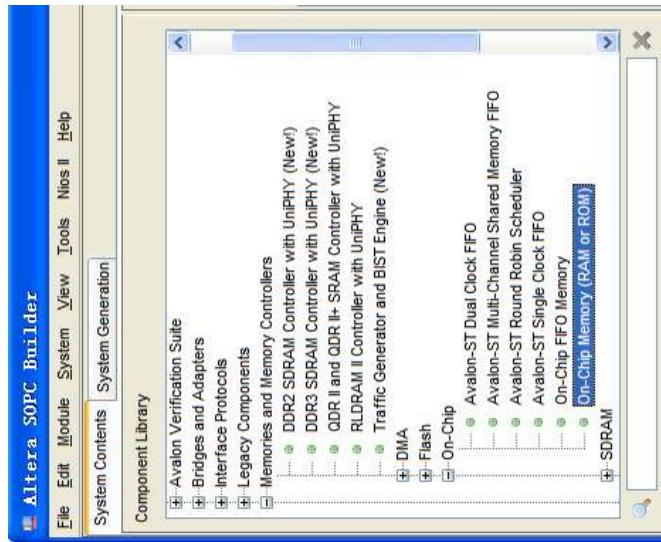
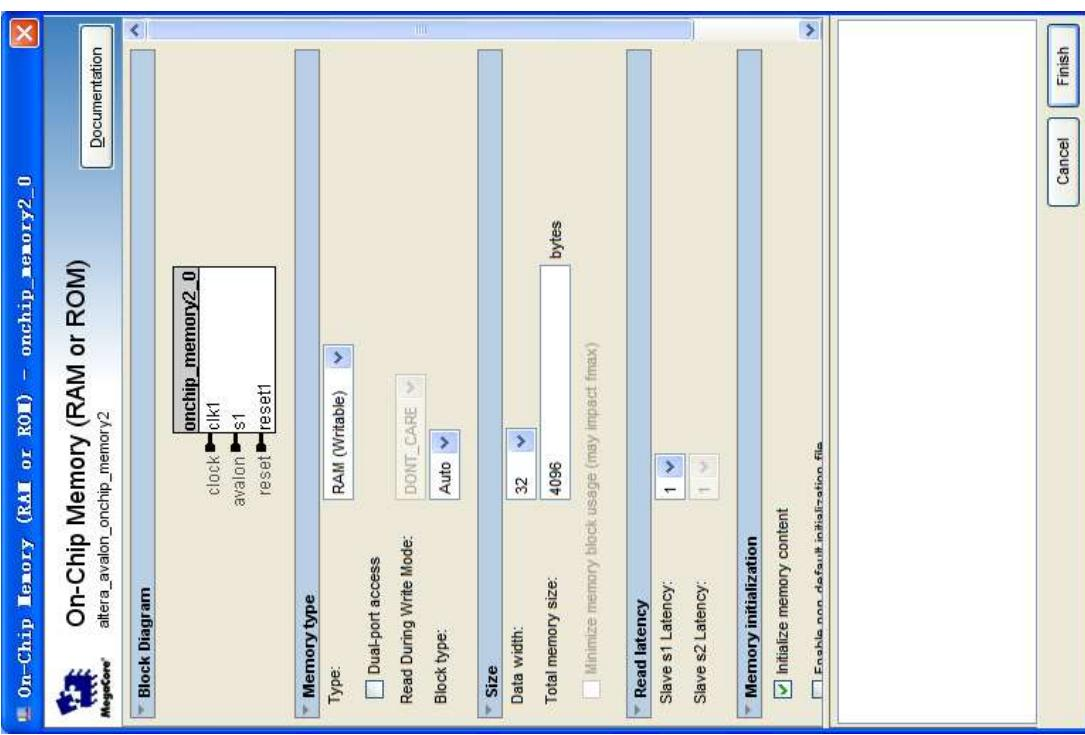

Figure 7-23 Add On-Chip Memory
Figure 7-24 On-Chip Memory Box
5. Add the Library > Memories and Memory Controllers > On-Chip > On-Chip Memory (RAM or ROM) component to system, as shown in Figure 7-23 and Figure 7-24.